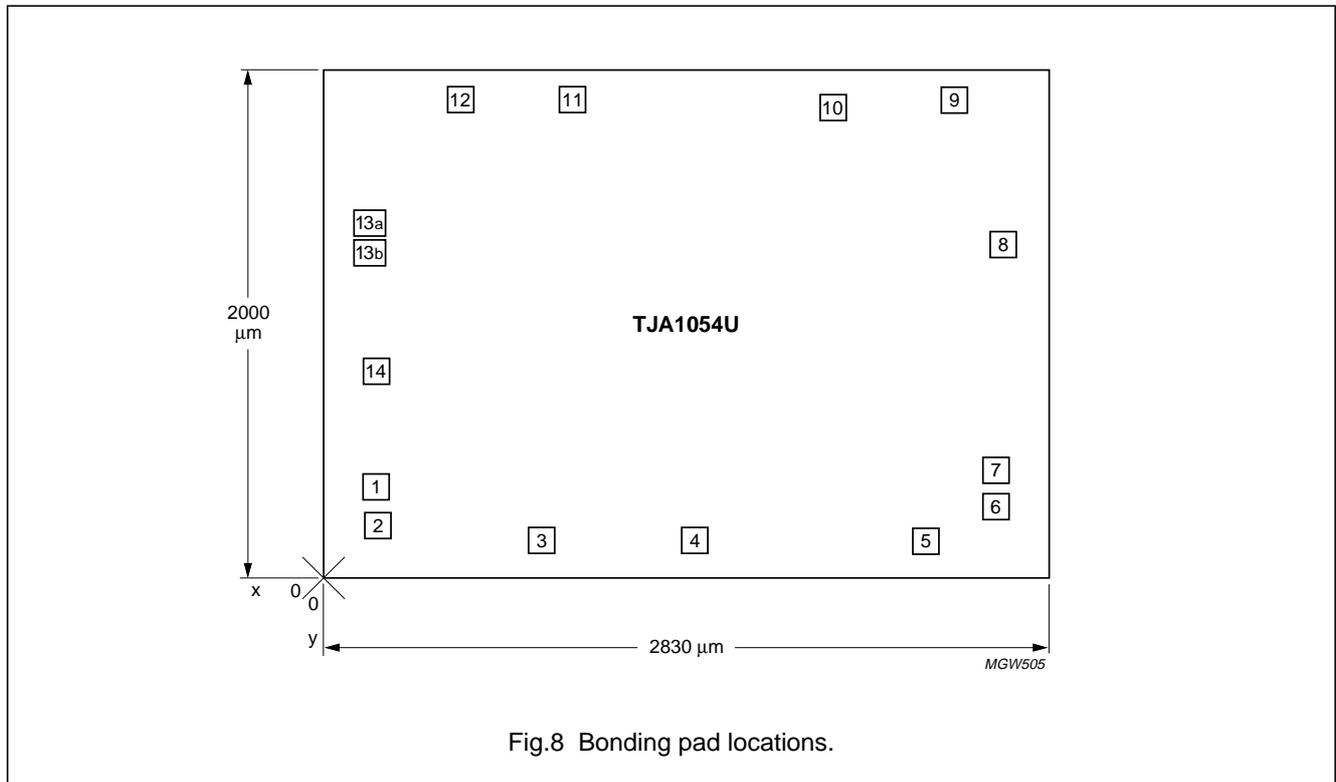

Fig.8 Bonding pad locations.
1. All coordinates (µm) represent the position of the centre of each pad with respect to the bottom left-hand corner of the die (see Fig.8).